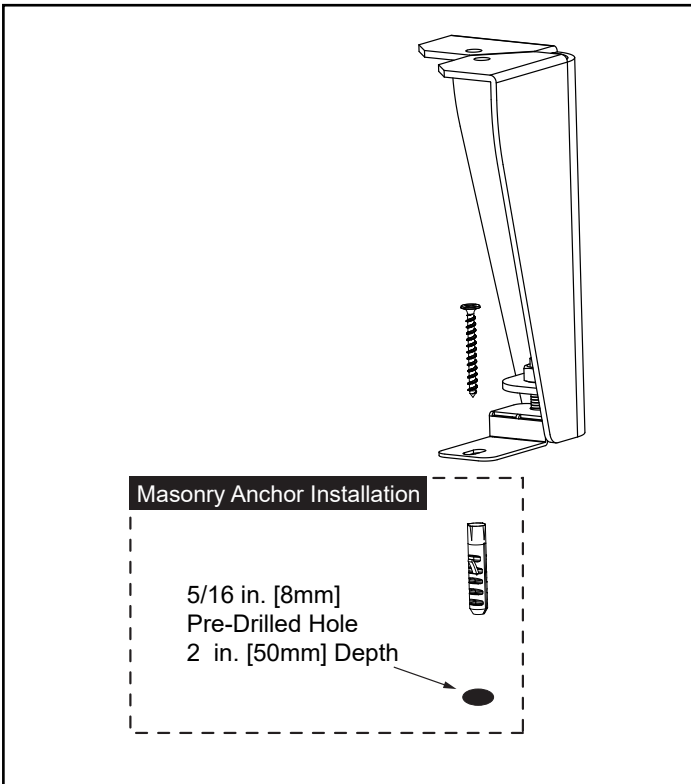

Figure 4.5 - Securing Anti-Tip Bracket
- Account for the location of the Anti-Tip Bracket. See Figure 4.5
- **For installation onto ceramic or masonry flooring,** use an appropriate 5/16 or 8mm drill bit for the material, to drill a 2 in. [50mm] deep hole. Insert the provided 8 x 40mm plastic anchor into the hole for securing the anti-tip bracket. See Figure 4.5.